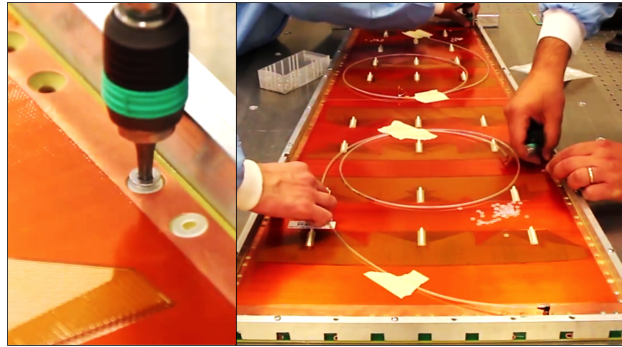

Figure 112: Sealing the detector.
Step 5: Place the polyamide washers in the conical holes and insert the M3 screws. As mentioned in the section "Preparation of the drift board", tighten the screws at 1.2 Nm using the manual torque screw driver (Fig. 112).